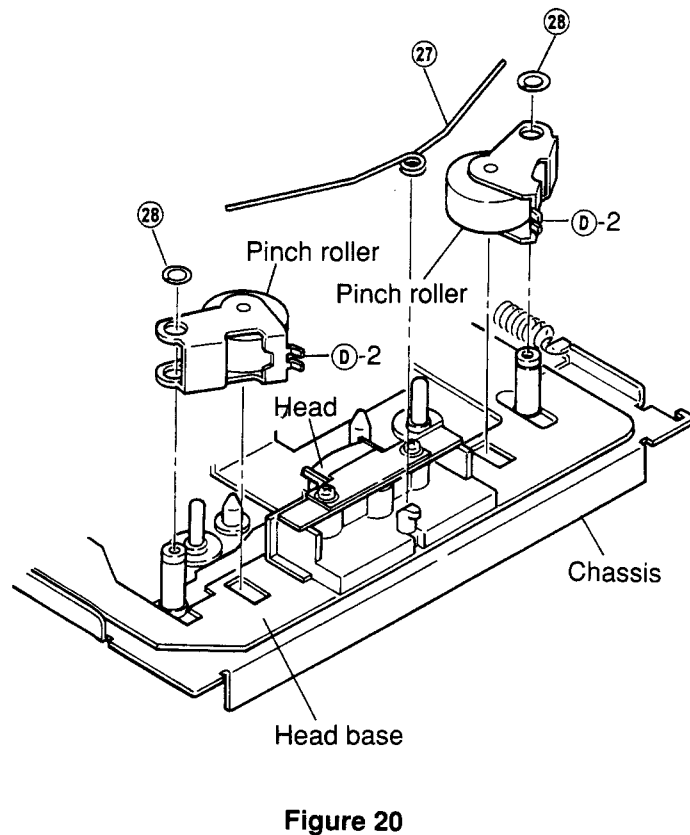

Figure 20
- (1) Remove pinch roller spring ②⑦ as shown in Figure 20.
- (2) Remove M3.1 two lock washers ②⑧ and remove the pinch roller as shown in Figure 20.
- (3) Mount the pinch rollers following the removal steps in the reverse order.
Apply insulation coating to the position ②⑨-2 of the pinch roller as shown in Figure 20.